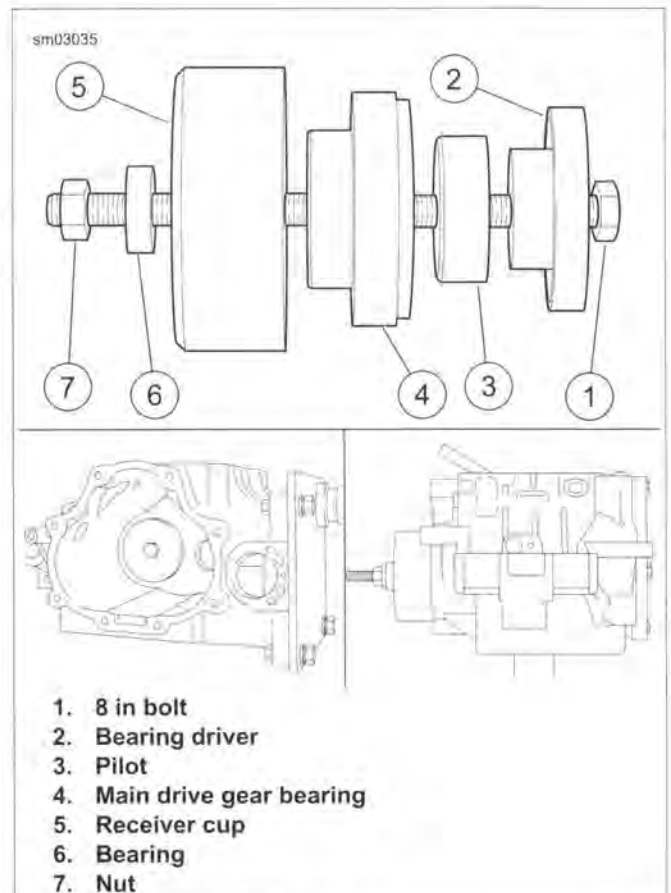

Figure 6-39. Removing Main Drive Gear Bearing
13. See Figure 6-39. Slide PILOT (Part No. HD-35316-10) (3) over small end of BEARING DRIVER (Part No. HD-35316-9) (2).
14. Apply a light coat of graphite lubricant to the threads of the 8 IN BOLT (Part No. HD-35316-4A) (1) and insert through bearing driver and pilot.
15. Insert bolt with bearing driver and pilot into right side of transmission case, through main drive gear bearing (4). Make sure that bearing driver fits up against main drive gear bearing and that pilot is centered in bearing bore.
16. At left side of case, slide RECEIVER CUP (Part No. HD-35316-11) (5) onto bolt and over main drive gear bearing. Install BEARING (Part No. RS-25100-200) (6) and nut (7) over end of bolt.